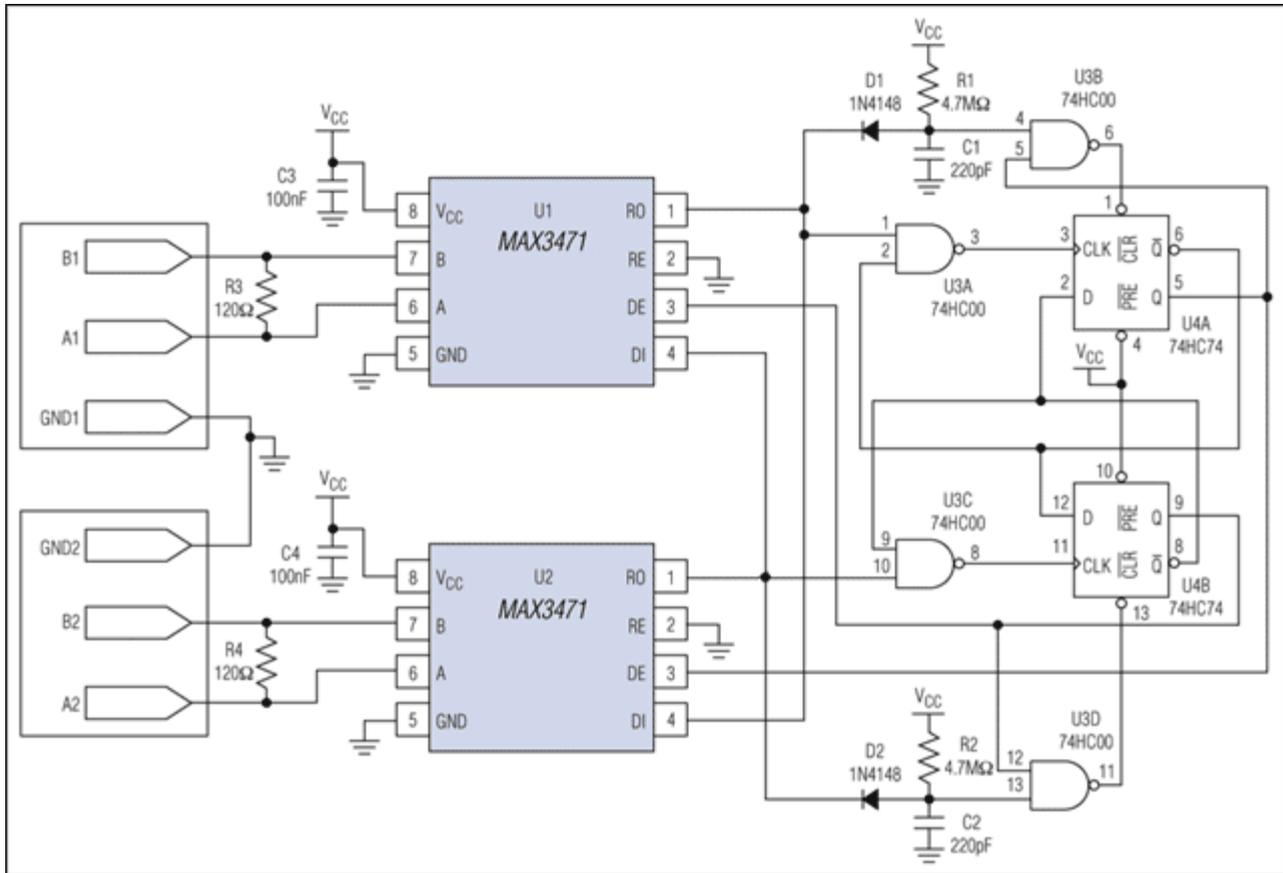

Figure 1. This RS-422 repeater draws only 3μA of standby current.
Abstract: The RS-422 interface is an excellent choice for communicating in noisy environments and over a distance. But, when the distance exceeds the RS-422 capability for reliable data transfer, you must add a repeater. The repeater circuit of Figure 1, which must operate from batteries when no power supply is available, draws less than 3 μ A of current from a 3V supply.
The RS-422 interface is an excellent choice for communicating in noisy environments and over a distance. However, when the distance exceeds the RS-422 capability for reliable data transfer, you must add a repeater. The repeater circuit in **Figure 1**, which must operate from batteries when no power supply is available, draws less than 3 μ A of current from a 3V supply.
Low standby power and true fail-safe operation are the key features in this application. U1 and U2 drive their receiver outputs (RO) high when the RS-422 inputs are open circuited or terminated and undriven. An incoming data byte on the differential inputs A1 and B1 forces a transition on RO of U1, and a state machine (right half of the Figure 1 schematic) is latched ON by the falling edge of RO. The state machine asserts a high level at U2's driver-enable pin, causing the incoming data byte to be retransmitted from U2 at full RS-422 levels.
An incoming data burst (**Figure 2**, top) is retransmitted as outputs A2 (bottom trace) and B2 (middle trace). U2 de-asserts those outputs 700μs after the final transition. Other delays can be implemented by adjusting R1/C1 and R2/C2 as shown in Figure 1.